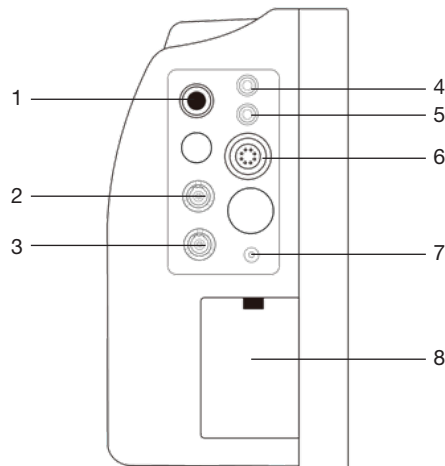

Figure 1-4 Left Side
Under connectors to patient cables there are battery slots with cover. See Figure 1-4 Battery Slot Cover.
- Apply the power line provided with the monitor. Plug the power line to INPUT interface of the monitor (Socket 3 in Figure 1-4). Connect the other end of the power line to a grounded 3-phase power output.